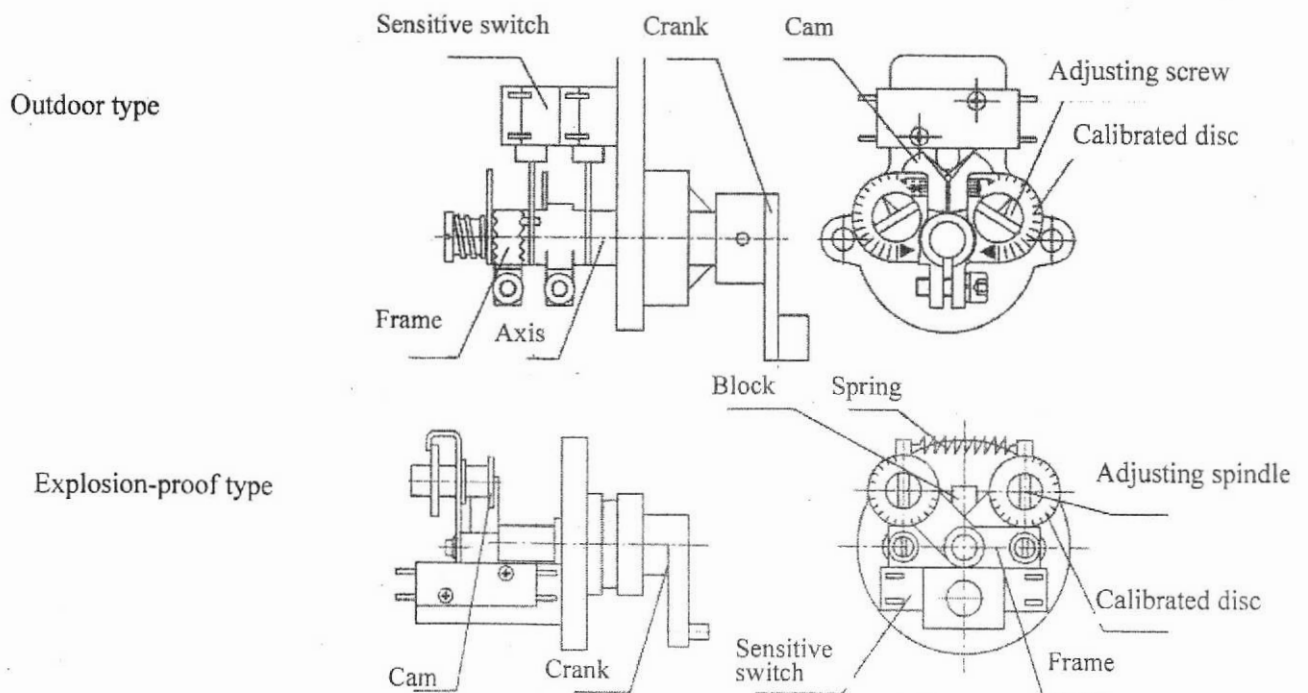

Figure 5
The torque controller is divided into the outdoor type and explosion-proof type. Refer to Figure 5 for the structure.
6.1 The adjustment for torque controller (refer to Figure 5)